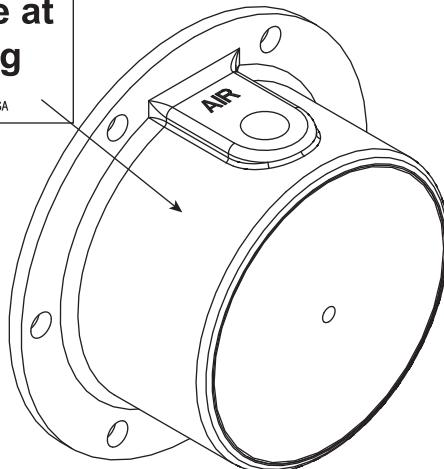

Figure 8. Recommended decal mounting location
7. If decal L918 is included in the literature packet, install it on the hubcap as shown in figure 8.